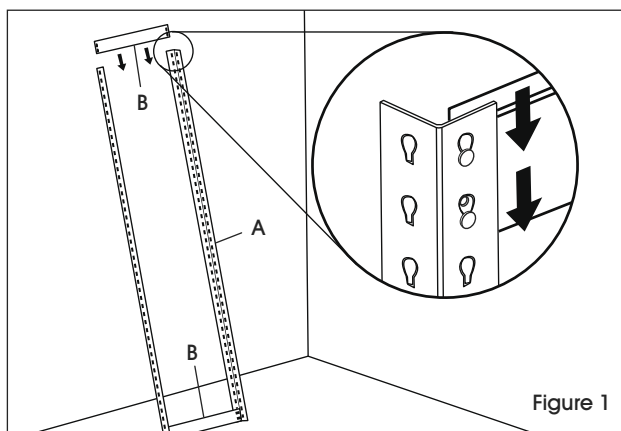

Figure 1
1. Connect two upright posts (A) by inserting a side support (B) at the top and bottom of the posts. (See Figure 1)